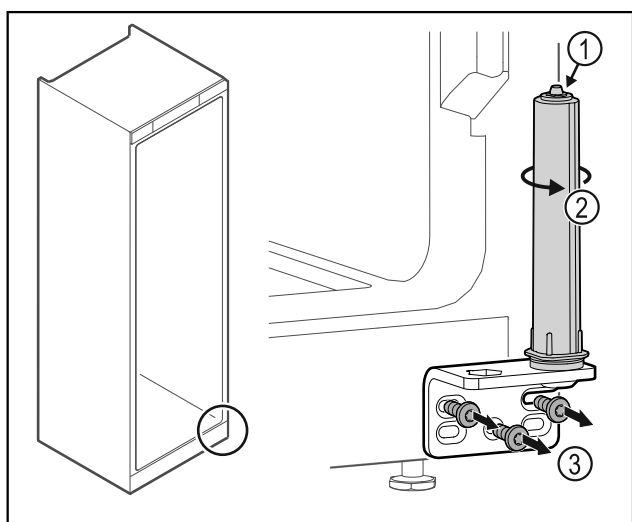

Fig. 36
- ▶ Do not disassemble the door closing system Fig. 36 (1).
- ▶ Turn the closing system Fig. 36 (2) until it clicks.
- ▶ Unscrew the hinge Fig. 36 (3).